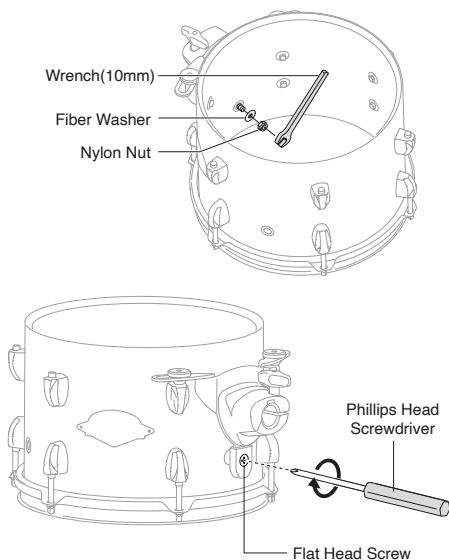

Fig.6
6. Ensure the Opti-Loc is positioned as shown below. Attach the Fiber Washer and Nylon Nut to the threaded end of the Flat Head Screw located on the inside of the drum. While holding the Nylon Nut inside the shell with a Wrench (10 mm), tighten the Flat Head Screw using a Phillips screwdriver to secure the lower portion of the Opti-loc to the drum (Fig.6). Use caution not to over-tighten the Flat Head Screw.